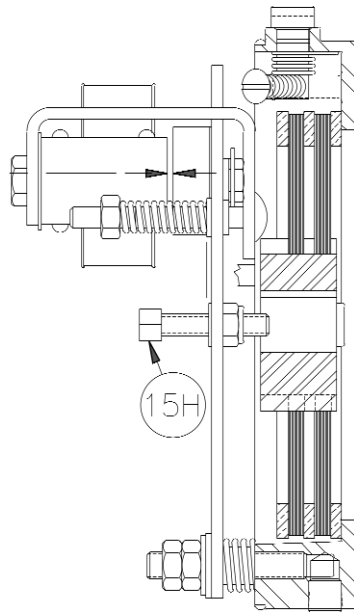

Figure 6
Refer to Figure 6.
2. Reassemble new armature plate assembly to magnet bracket (15C) using items (15R), (15S) and (15T). Reassemble operator assembly to brake bracket. Set magnet air gap "A" and set torque springs (15S) to 1" as shown in Fig. 6 and 7.